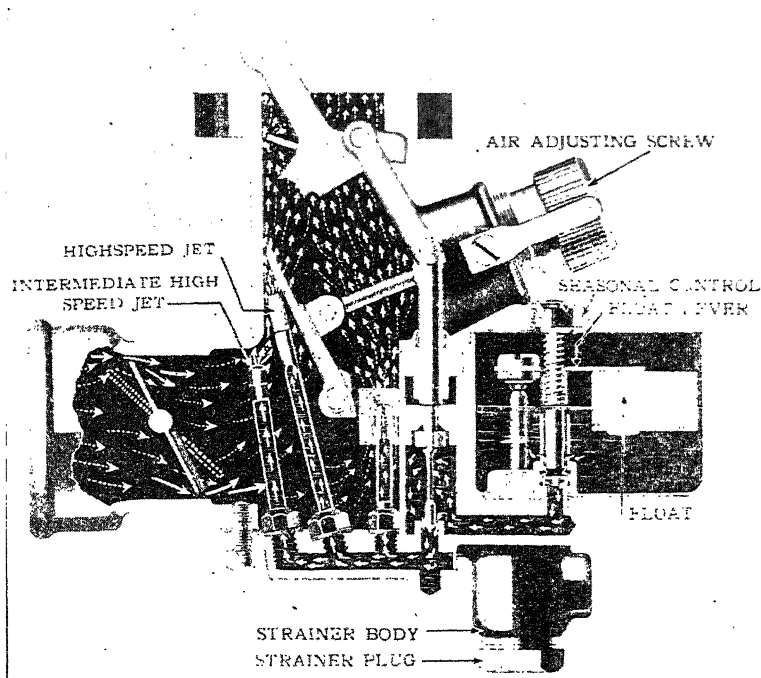

Fig. 70. Automatic Action of Choker Valve Illustrated
**Choker.** The choker valve is unique in design in that the lower side of it is weighted. In Fig. 70 the butterfly choker valve with